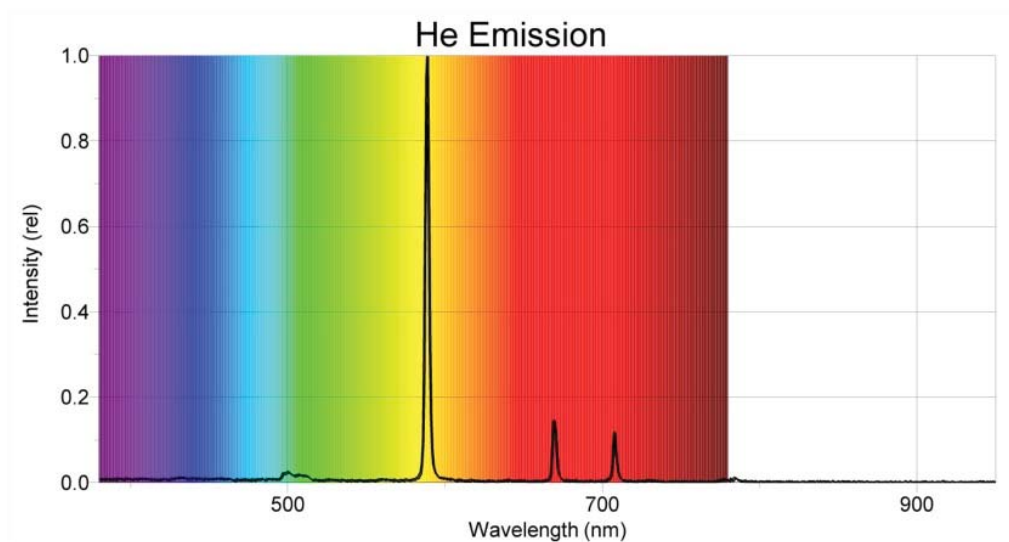

Figure 8.10: An example of an Helium emission spectrum, similar to what you will see on the computer screen.
4. **When you achieve a satisfactory graph, stop data collection.** An example of an emission graph for helium is shown in Fig. 8.10. If the highest peak in the emission spectrum is > 1 , then the sensor is saturated and needs to receive less light. Try moving the optical fiber away from or towards the light source, or point it slightly off-center, until the highest peak is ≤ 1 . If this doesn't help, stop data collection and increase or decrease the **Sample Time** as described in Step 4 of the **Setup** section.